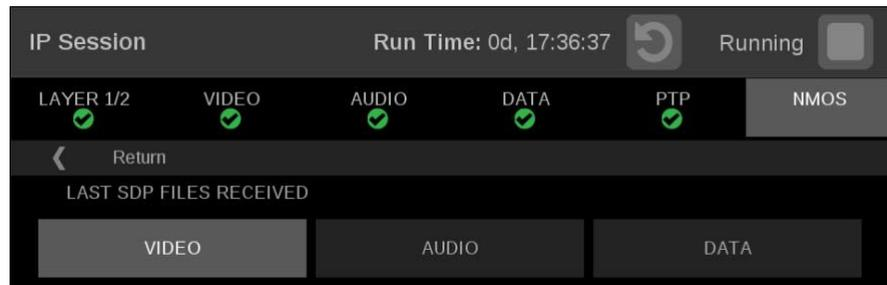

Figure 143: Last SDP File Received display
- **Last SDP File Received:** Select the Last SDP File Received tab view video, audio, and data SDP files. These files contain information used to configure input signals from the registration servers. (See Figure 143.)